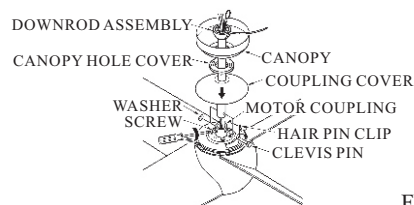

FIG. 8
2. Insert the down rod through the center opening in the canopy,coupling cover and route the motor leads through the hanger ball/downrod assembly. Align the clevis pin holes in the downrod with the holes in the motor coupling. The clevis pin must pass through the holes in the motor coupling and the downrod. Place the washer onto the clevis pin and install the hairpin clip making sure to push straight leg of the hairpin clip through the hole near hanger ball to make sure the clevis pin is properly installed.(See fig.8)